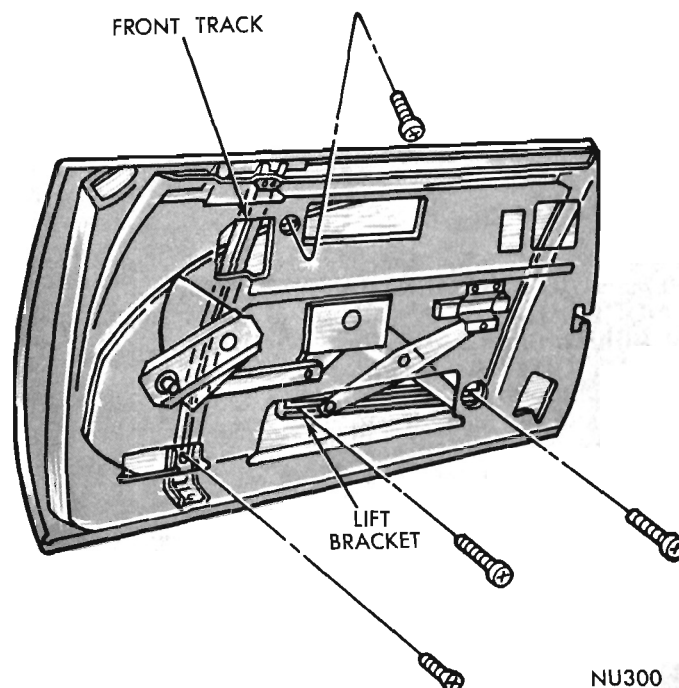

Fig. 3 - Lift Bracket
(1) Remove door belt line weatherstrips.
(2) With regulator arms in the full down position, remove screws attaching lift bracket to glass (Fig. 3).
(3) Remove front track upper and lower bracket attaching screws.